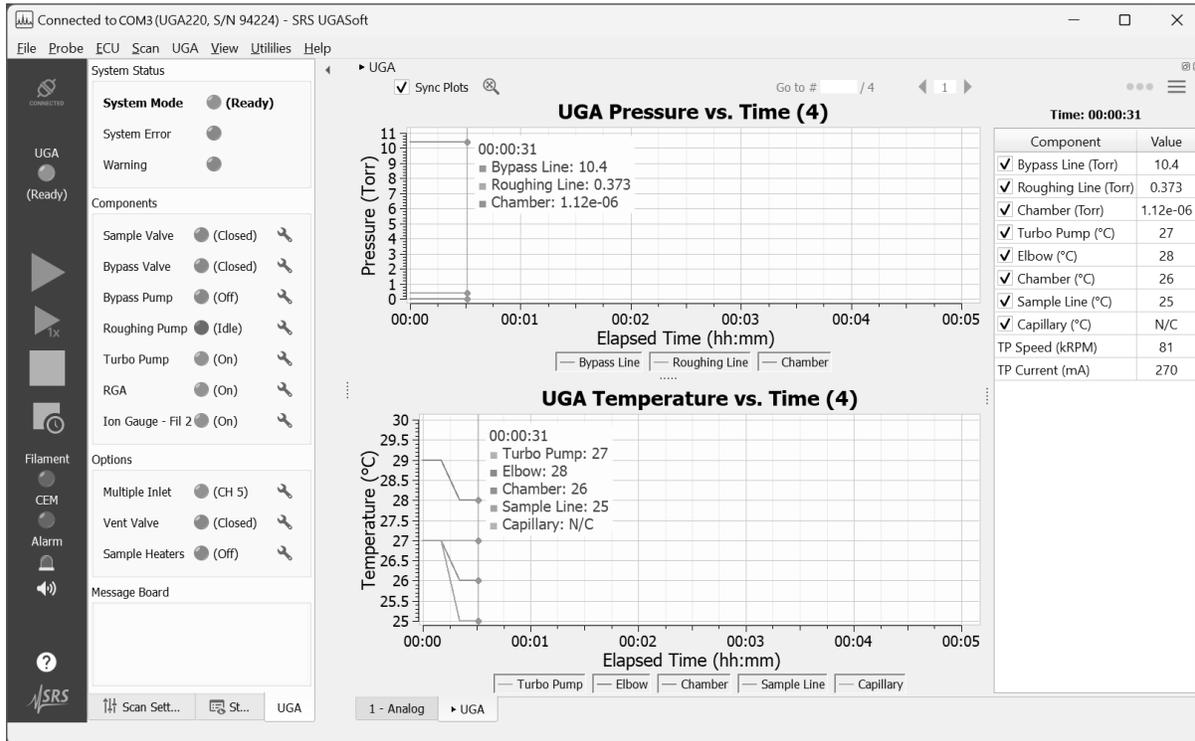

Fig. 2-5. Screenshot of UGA controls and measurements after a successful serial connection.
7. Next, the program will read UGA/RGA status and show the current state. Figure 2-5 shows a UGA in ready state. Now a user can explore the program for UGA and RGA controls and analysis.